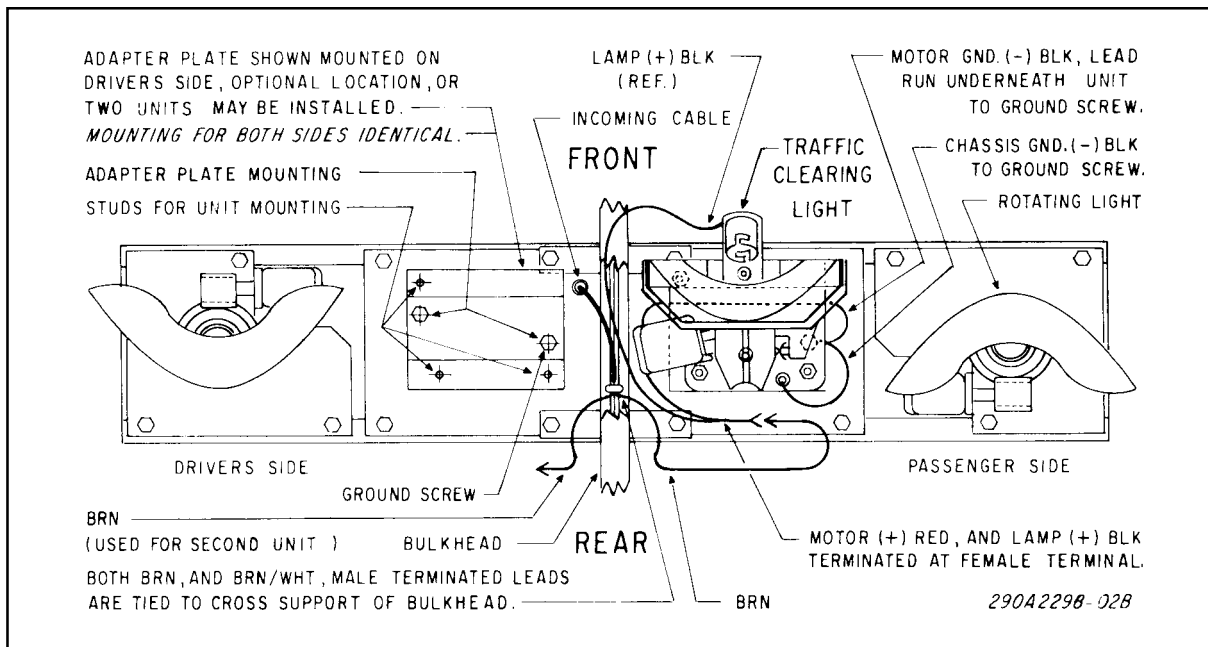

Figure 2. Wiring Diagram.
4. Connect the male terminal of the brown wire in the incoming cable to the female terminal of the double brown wire in the inside wiring harness (see figure 2).
5. Locate the other end of the double brown wire (refer to step 4) under one of the outboard reflector assemblies'. Connect this end to the traffic clearing light's motor and and lamp lead (+) (see figure 2).
6. Connect the traffic clearing light's motor and chassis ground leads to a good ground point in the light assembly as shown in figure 2.